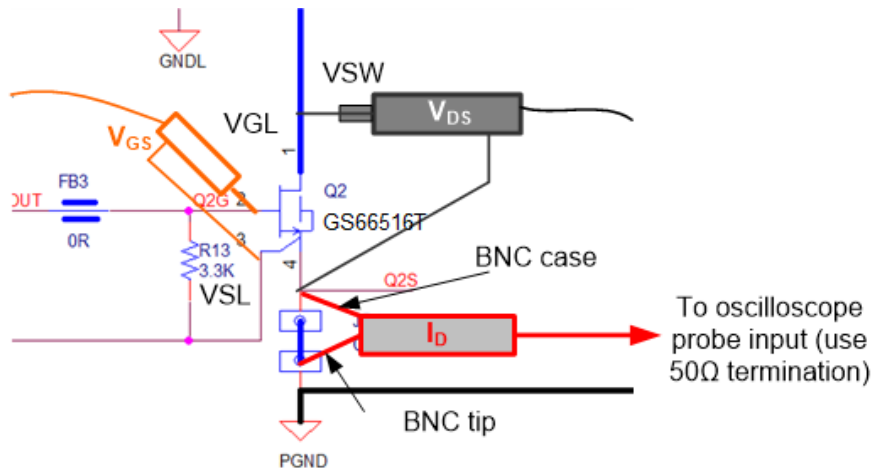

Figure 16. Recommended Probe Connection with Current Shunt
- When measuring VSW with current shunt, ensure all channel probe grounds and the current shunt BNC output case are all referenced to the source end of Q2 before the current shunt. The recommended setup of probes is shown in Figure 16.